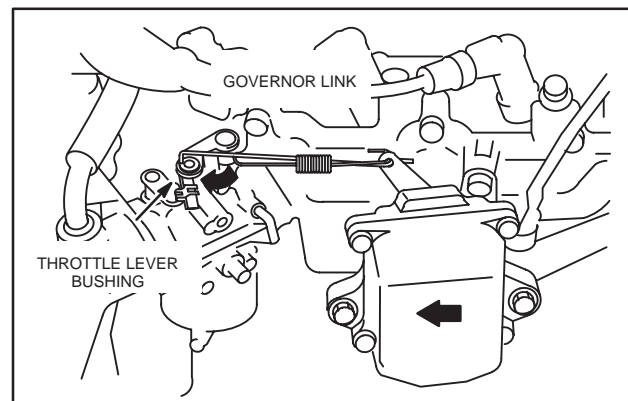

Fig. 32 – Adjust Actuator
4. Slide actuator until governor link is positioned slightly to rear of hole in throttle lever bushing, Fig. 32.